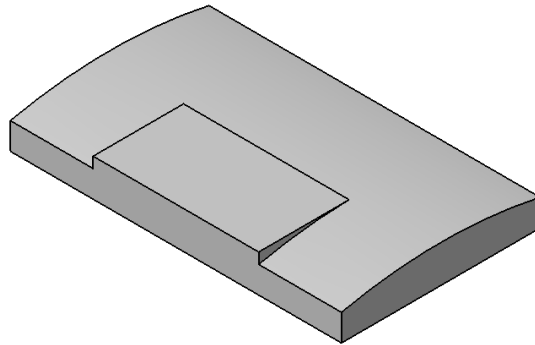

Figure 6-95 The model after creating the second feature
5. Select the **Up to next** option from the **Type** drop-down list and exit the **Pad Definition** dialog box. The model, after creating the second feature, is shown in Figure 6-95.